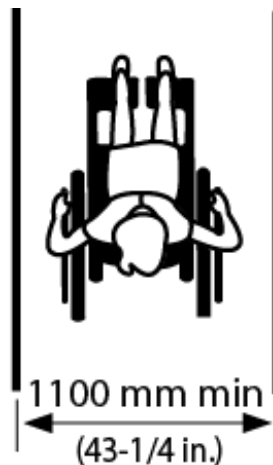

Figure 57: Minimum Width of Other Routes
- **Other routes:** 1100 mm (Figure 57)